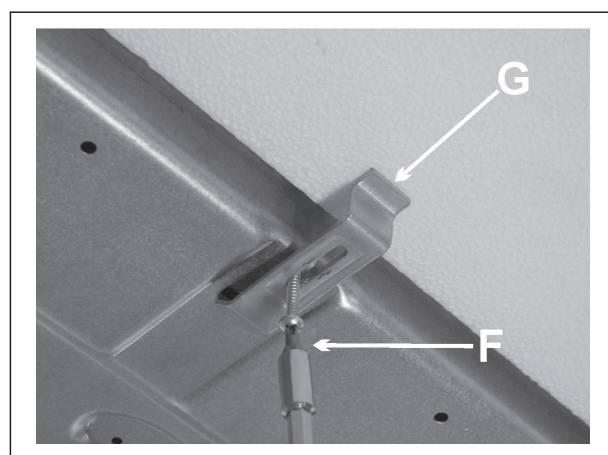

FIG. 7
- Position the hob in the hole in the unit and fasten it in place using the appropriate screws "F" of the fastening hooks "G" (see fig. 7).